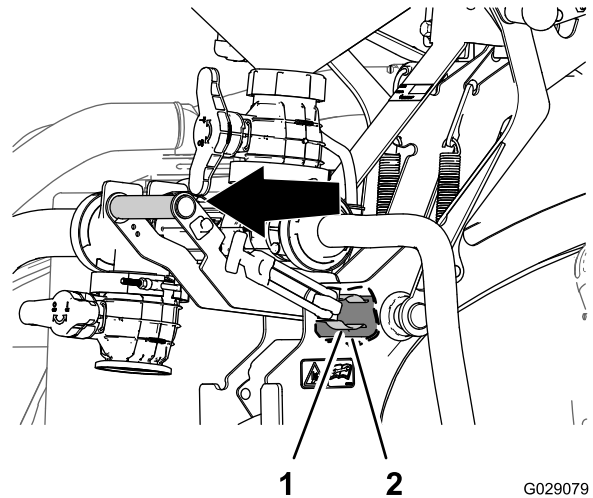
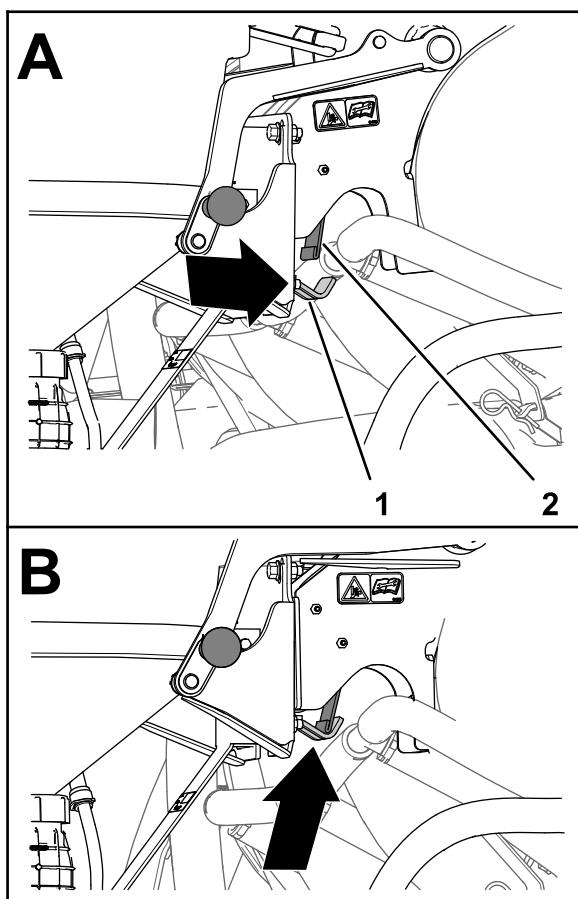

Figure 38
Figure 41
1. Grasp a handle at the top of the cradle in addition to the educator handle and pull the educator handle outward until the hook portion of the latch is aligned outward of the spring plate (Figure 38 and Figure 41).
4. Push in the educator handle so that the hook raises to the latch rod and the spring clip fully seats around the pivot tube (Figure 38).